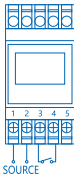
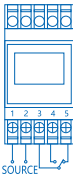

Figure 3 KG10D-1H
Figure 4 KG10D-1Z
3.2.1.1 For the wiring method of KG10D, please refer to Figure 3~ Figure 4.